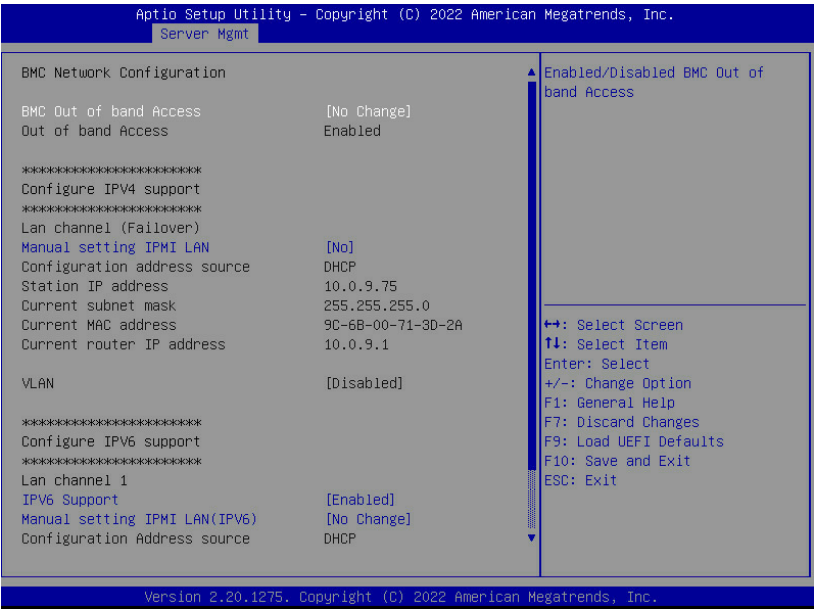

Figure 29 : Setting BMC IP Address
- 3 **Server Mgmt -> Manual setting IPMI LAN -> Yes** (Figure 29)